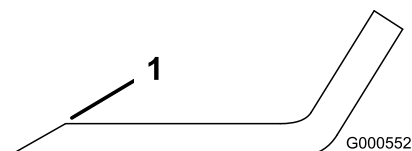

Figure 51
1. Use a file to sharpen the cutting edge at both ends of the blade (Figure 51).
Note: If the blade is not balanced, file some metal off the end of the sail area only (Figure 51).